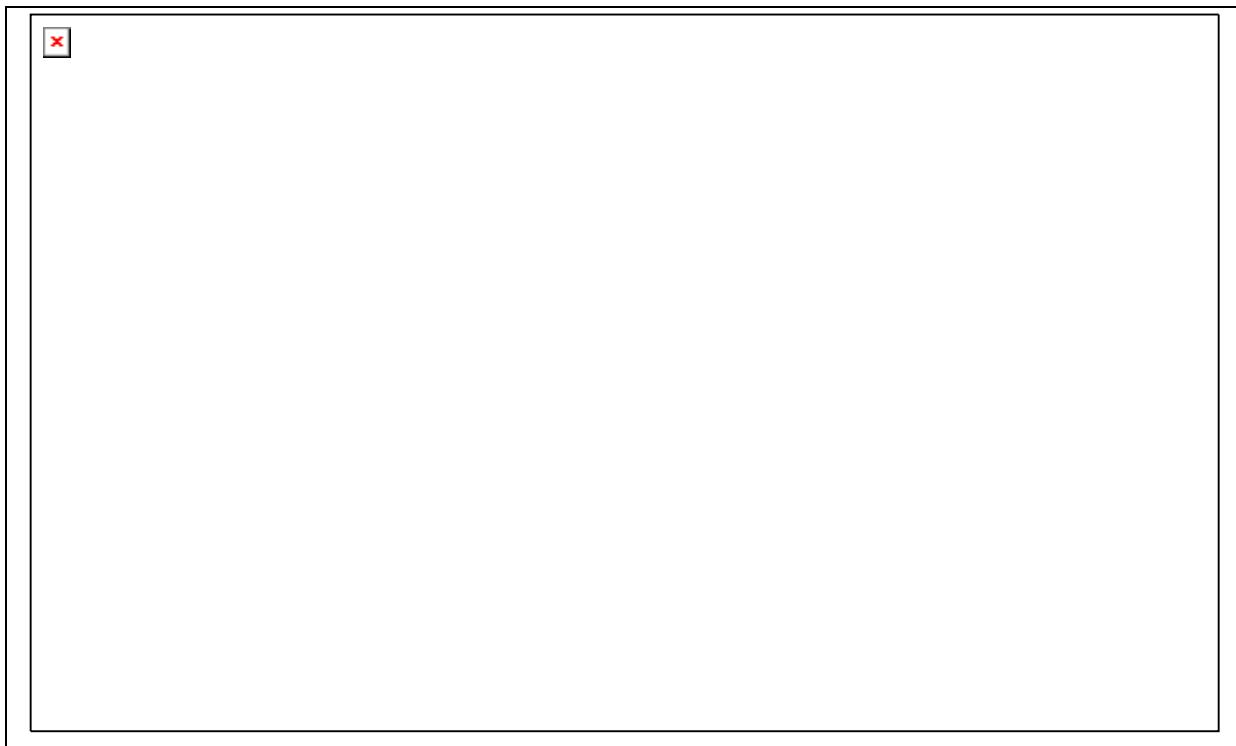
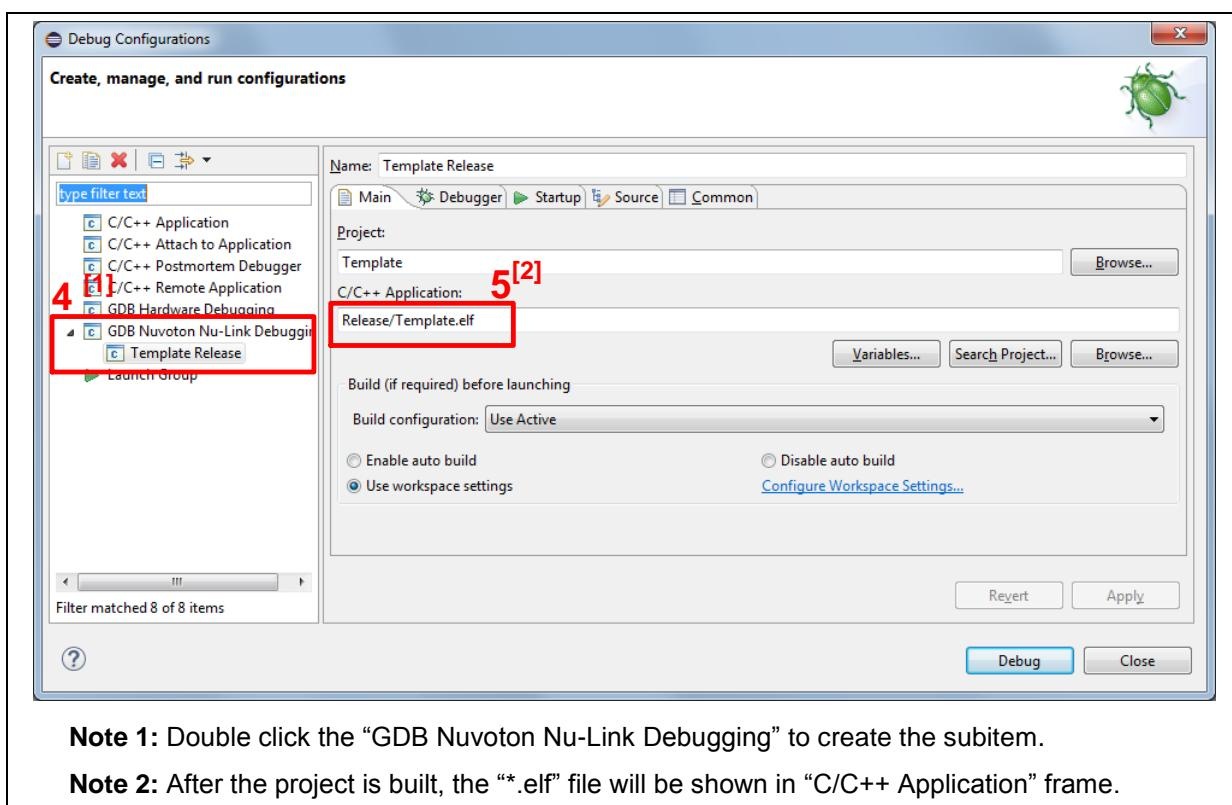
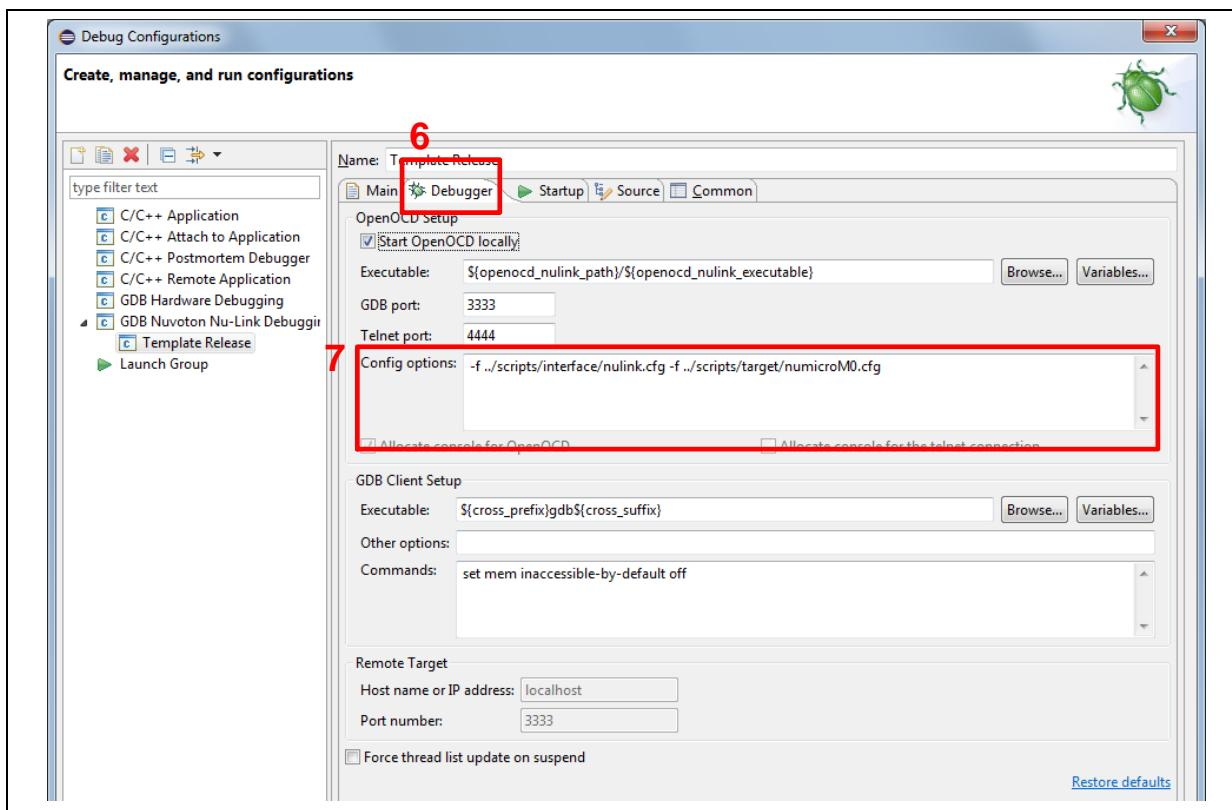
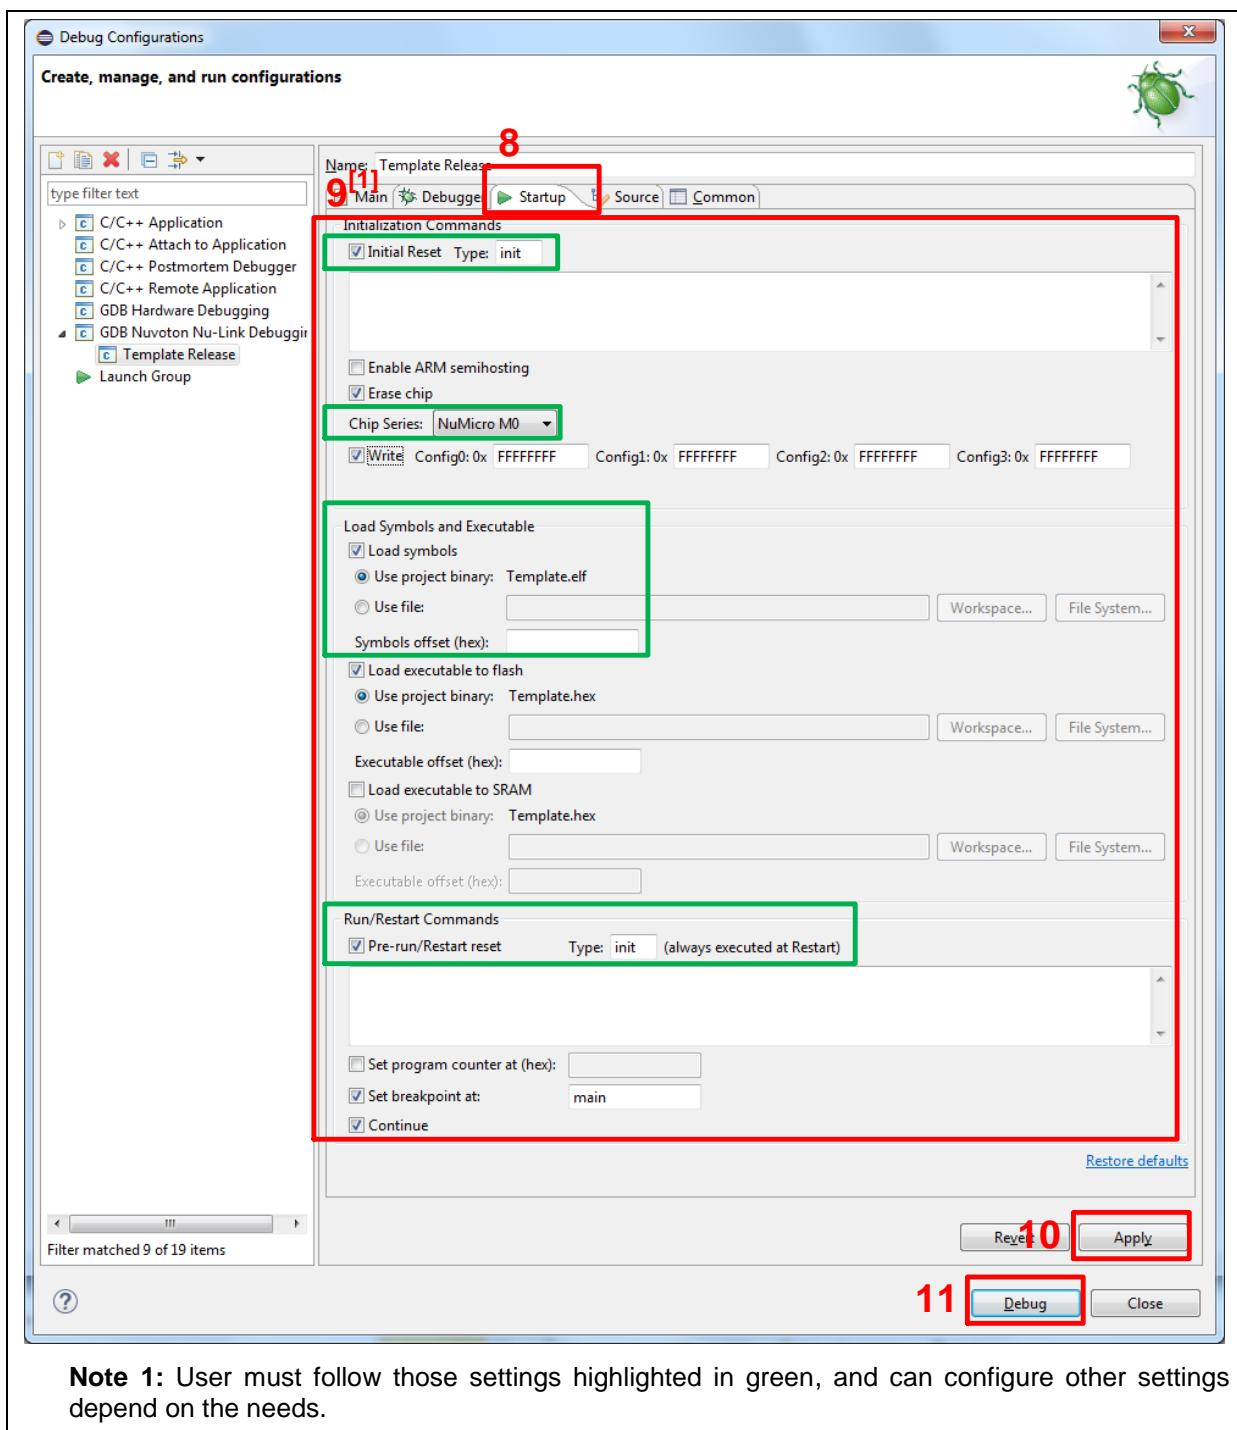

Figure 3-32 Open Debug Configuration
Figure 3-33 Main Tab Configuration
Figure 3-34 Debugger Tab Configuration
Figure 3-35 Startup Tab Configuration
5. After the project is built, click the “Template” project and set the “Debug Configuration” as shown in Figure 3-32. Follow the settings presented in Figure 3-33, Figure 3-34 and Figure 3-35 to enter debug mode.